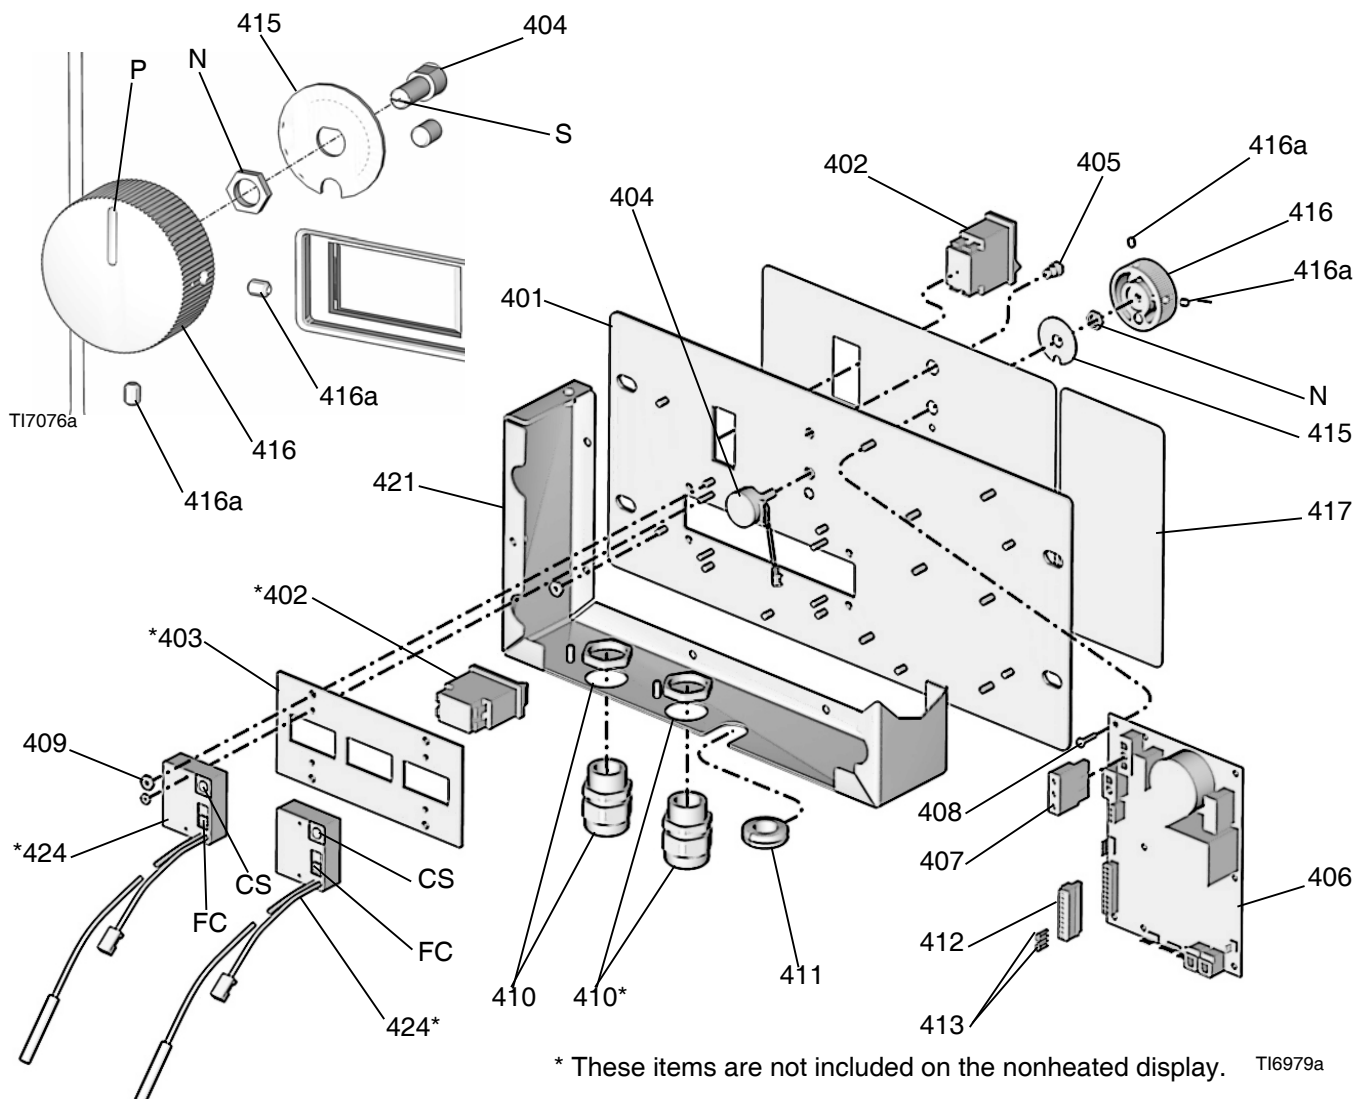
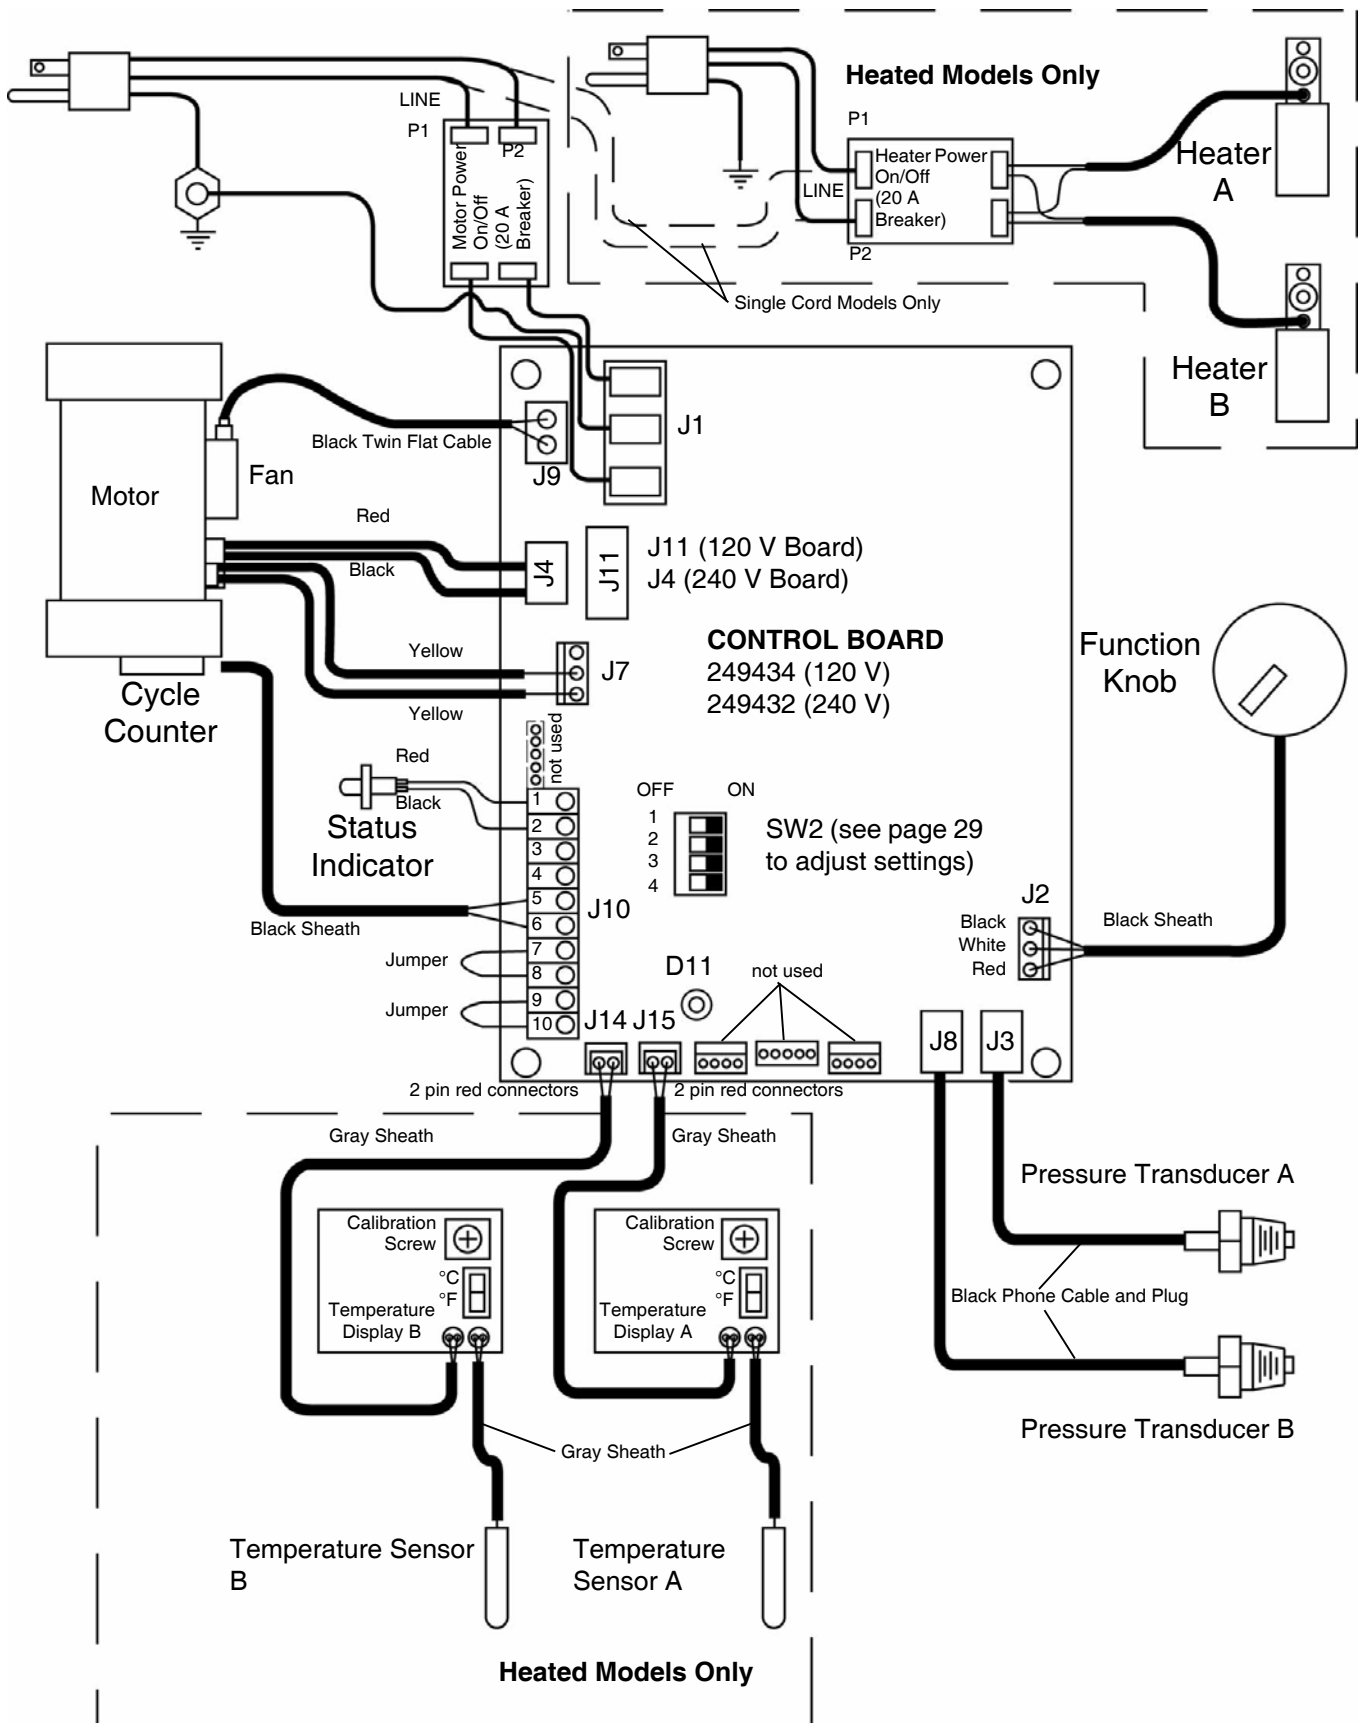

FIG. 13 Control Module (Heated Model Shown)
FIG. 14 Control Module Wiring Connections
2. Remove the access cover (39) from the back of the control module.
3. See FIG. 13, page 39. Locate the slide switch (FC) at the right edge of each temperature display board. The unit is shipped set to °F (down). To change to °C, move both switches to the up position.
1. Remove the access cover (39) from the back of the control module.
2. See FIG. 13, page 39. Locate the calibration screw (CS) at the upper right corner of each temperature display board. Turn the screw slightly to correct the temperature display.
3. Remove the access cover (39) from the back of the control module.
4. Disconnect the potentiometer wires from J2 on the control board (406). See FIG. 14, page 41.
5. See FIG. 13. Remove the two setscrews (416a) and pull the function knob (416) off of the potentiometer (404) shaft.
6. Remove the nut (N, part of 404) and the detent plate (415).
7. Install the new potentiometer (404) in reverse order. Position the potentiometer so the slot (S) is horizontal. Position the knob (416) so the pointer (P) faces up. Install the knob on the shaft so the slot (S) engages the alignment pin in knob. Push the knob onto the shaft against the detent spring before tightening the setscrews (416a).
8. Reconnect the potentiometer wires to J2 as shown in FIG. 14, page 41.
There is one red LED (D11) on the board. Power must be on to check. See FIG. 14 for location. Function is:
(see FIG. 14)
3. Remove the access cover (39) at the back of the control module to expose control board (406).
4. Disconnect the transducer cables from J3 and J8 at the board. See FIG. 14, page 41. Reverse A and B connections and check if the status code follows the bad transducer. See **Status Code 3: Transducer A Failure**, page 30.
9. Connect the transducer cable at the board; see FIG. 14, page 41.
If the motor is not locked up by pumps, it can be tested using a 9 V battery. Open the recirculating valves, disconnect J4 or J11 from the control board, see FIG. 14, page 41. Touch jumpers from battery to the motor connections. The motor should turn slowly and smoothly.
- a. Find the control board at the back of the control module, see FIG. 14, page 41.
1. Disconnect the fan cable (37) from the fan (202). With Motor Power on, test the cable connector for line voltage (120 V or 240 V).
2. **If voltage is correct:** the fan is defective. Remove the screws holding the fan to the shield (206). Install the new fan in reverse order.
3. **If voltage is not correct:** check the fan cable connection at J9 on the control board; see FIG. 14, page 41.